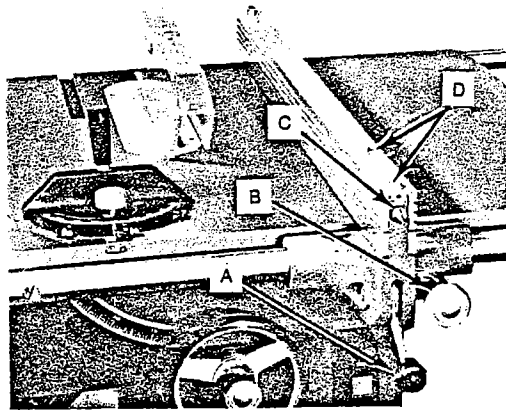

FIGURE 13
To adjust rip fence, raise clamp lever A (Figure 13) all the way up; and move fence to position desired on table.
2. Tighten clamp lever A (Figure 13).
1. Loosen two front cap screws D (Figure 13).